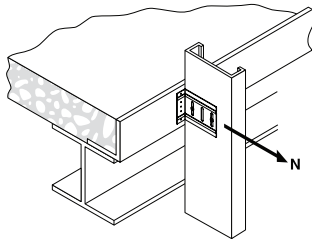

Figure 7:
- Allowable load based on a safety factor of 5.0 in direction shown in Figure 7 for attachment of deflection slip clip to 3000 psi Lightweight Concrete Slab with 12 GA. sheet steel pour stop with minimum yield strength $F_y = 33$ ksi.